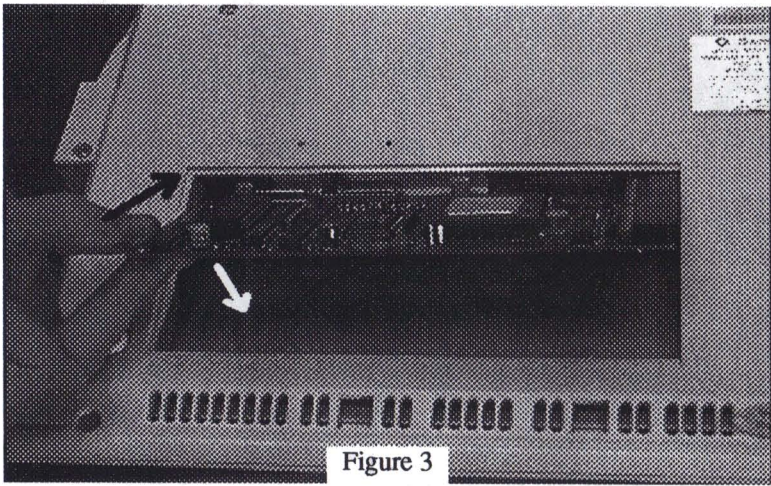

Figure 3
- (4) Holding the DKB Mongoose board so that the chips are facing up, slide the board into the opening, tilting the L-shaped back edge down slightly. Make sure that the back edge of the board is resting on top of the small plastic lip along the back edge of the opening (see Figure 3).
- (5) Line up the connector on the board with the edge of the board in your computer. Push the board towards the connector until it is seated firmly.
- (6) Snap the plastic cover back into place
- (7) Turn your computer over, and re-connect the cables
- (8) Turn the computer on. If the power light does not come on, or the A1200 does not seem to start normally, turn the power off immediately, and re-check your connections.